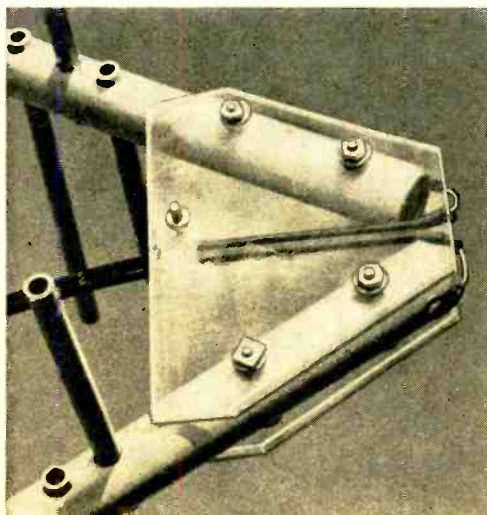

Fig. 6. The nose assembly fastens together with  $\frac{1}{4}$ - $20 \times 2\frac{1}{2}$ " hardware, cable clamp with 6-32 hardware.
**Installation and Aiming.** Take all of the antenna parts, including the mast and lead-in cable, out of doors where you will have plenty of room for final assembly. Assemble the nose pieces and element booms together as illustrated in Fig. 6. Screw down the solder lugs on the lead-in cable, and pass the cable through a small cable clamp. Bolt the clamp to one of the Plexiglass pieces with a 6-32  $\times$   $\frac{1}{2}$ " machine screw, lockwasher, and nut.